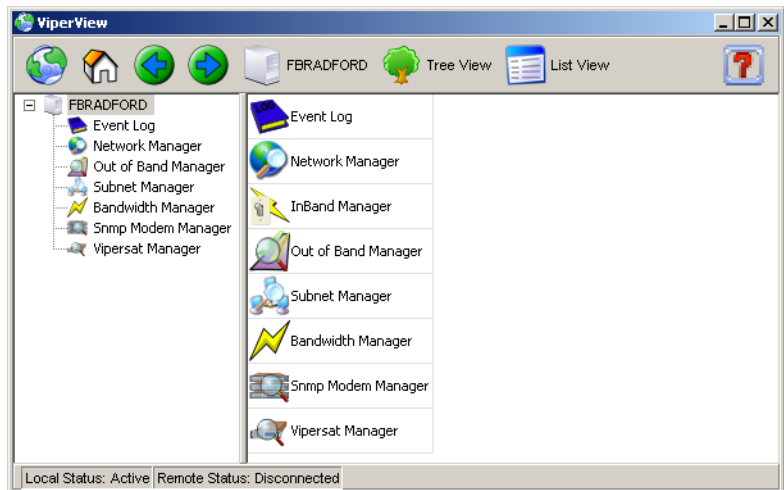

Figure 2-34 Successful Installation, ViperView
3. From the Program File directory, find **VMS 3.x** and click the **Connection Manager**. Accept "localhost" and click on the **OK** button in the **Connect To** dialog. The **ViperView** window will appear, as shown in figure 2-34.